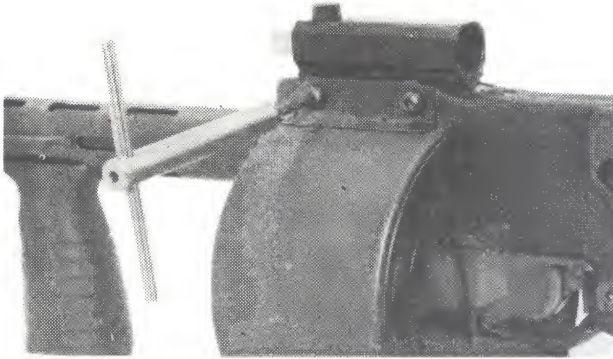

Fig. 11
2. Remove the four fixing screws holding the magazine cover using an Allen key or spanner. (Fig. 11).
6. Replace the four locking screws in top section of magazine cover. (Fig. 11).
- * Tighten well with Allen key. (Fig. 11)